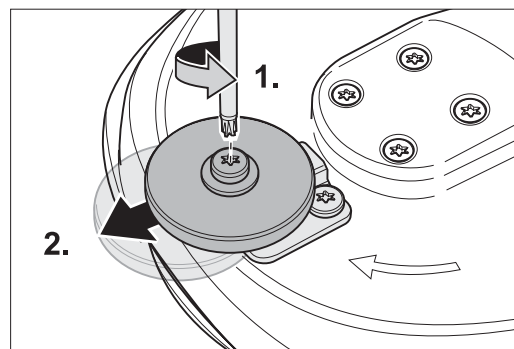

Fig. 53 Loosen the screw and move the wall-protecting roller.
- 2 Use the universal spanner to undo the screw in the middle of the wall-protecting roller and push it into the front position (Fig. 53).
- 2 Use the universal spanner to remove the screw in the middle of the wall-protecting roller (Fig. 53, 1.).